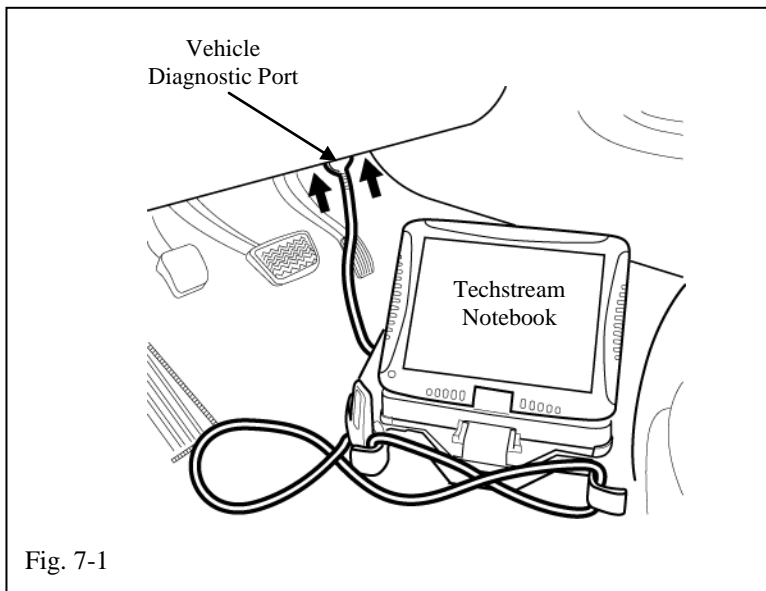

Fig. 7-1
- (a) Connect the Techstream Notebook to the Vehicles Diagnostic Port. (Fig. 7-1)